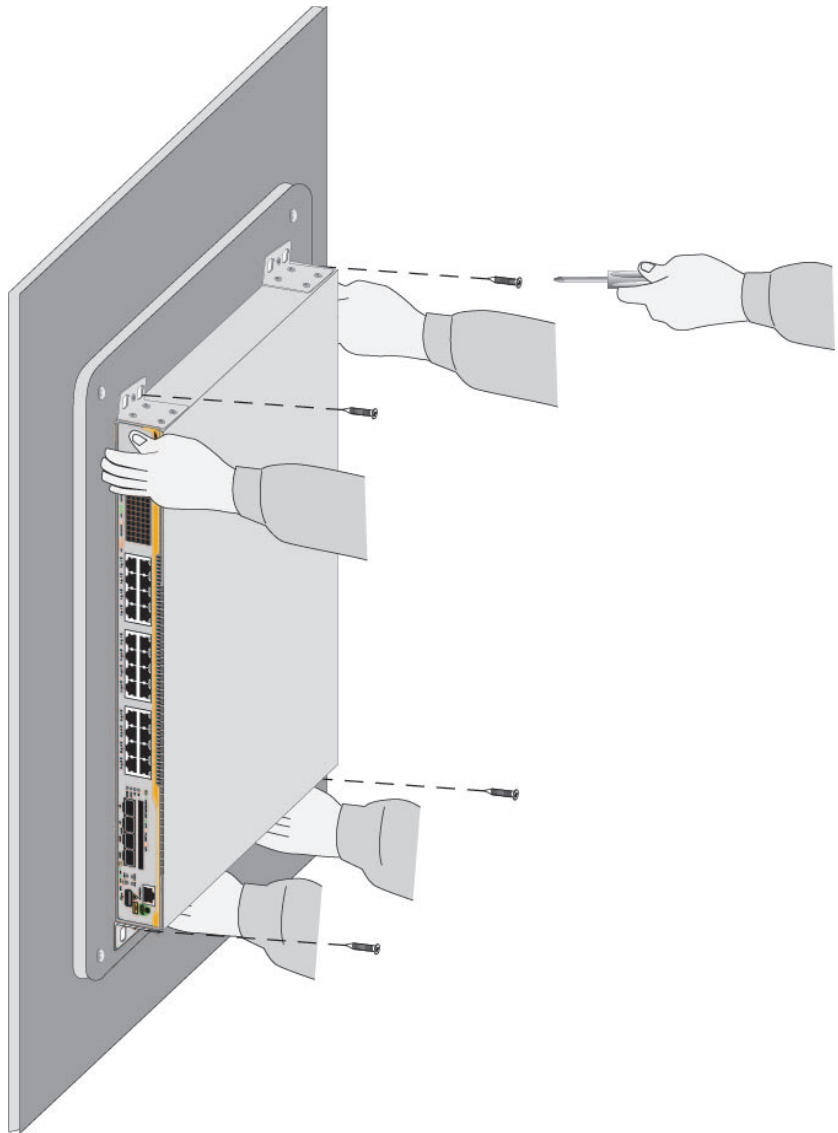

Figure 32. Installing the Switch on a Concrete Wall
7. Have two people hold the switch at the selected wall location while you secure it to the wall with the four provided screws. See Figure 32.